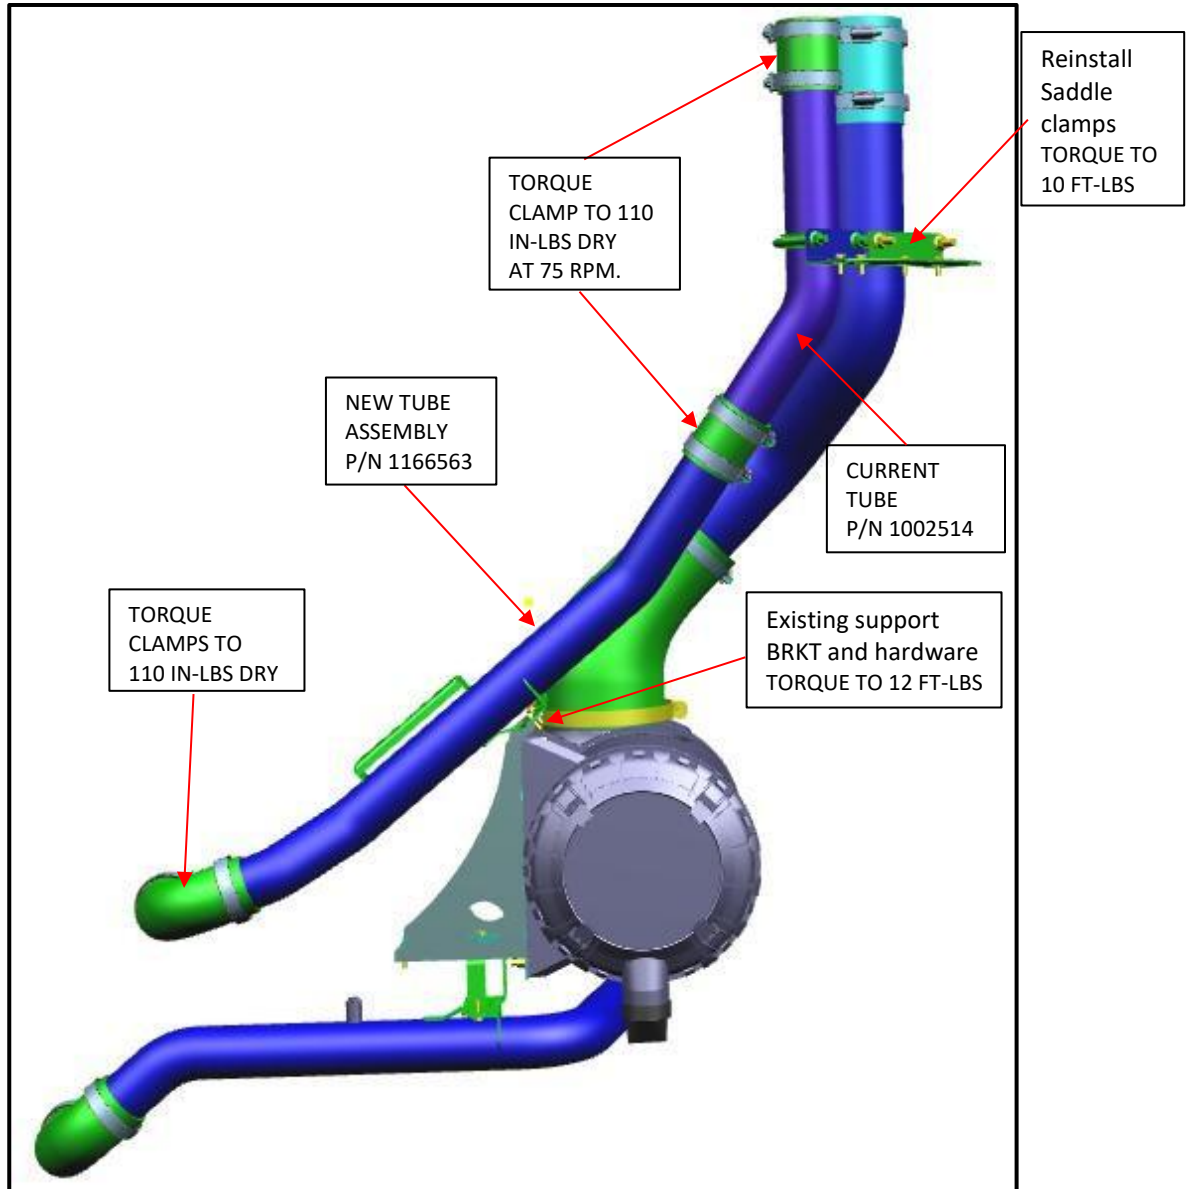

Figure 10: FC vent tube location reference
- 20. Remove tape from the elbow and Install new FC vent tube, secure using existing clamps and torque as shown below. See figure 10.
- 21. Reinstall saddle clamp on Air intake and vent tube using existing hardware. See figure 10.